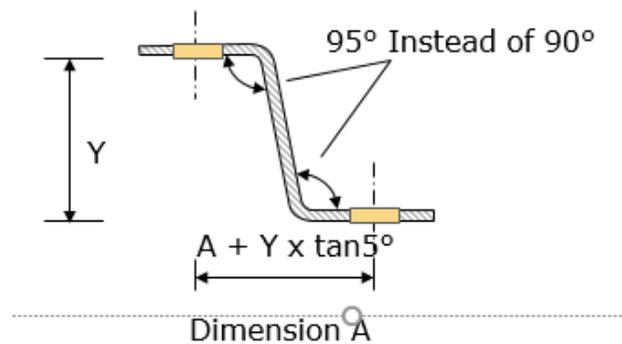

Figure 1
- Wrong spring back calculation – see figure 1